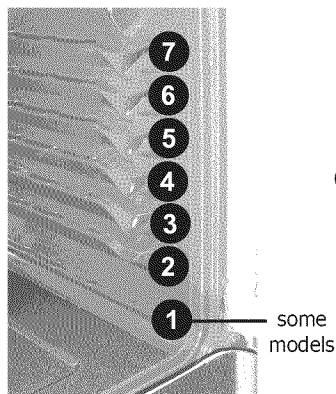

Fig. 1
Use the broil feature to cook meats that require direct exposure to radiant heat for optimum browning results. When broiling always remember to arrange the oven racks while oven is still cool. Position the rack as suggested in the **broil settings table** (See Figs. 1 & 3).
6. Place the broiler pan and insert (if equipped) on the oven rack (See Figs. 1 & 2).